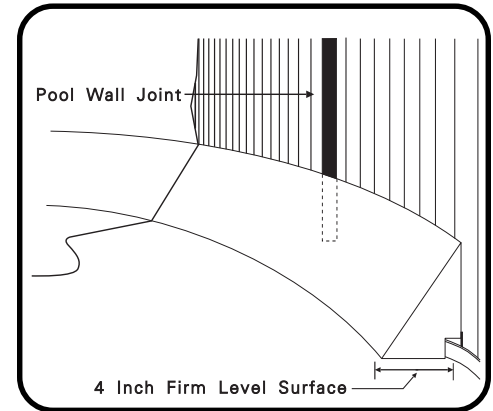
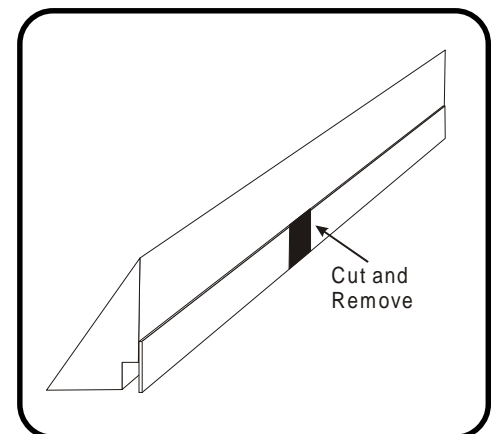

Figure 1
Figure 3
Step 2: Make sure you have a 4 inch wide firm, level surface around the entire inside of the pool wall. (See Figure 1)
Step 3: Locate the pool wall joint. Determine if the pool wall joint seam projects inside the pool and will interfere with the black plastic strip on the back of the cove. (See Figure 1) If there will be no interference, skip to Step 4. If there is interference, cut and remove a 3 inch section from the center of the black plastic backing strip. Using a fine tooth saw or tin snips, cut only the black plastic strip. Remove a 3 inch section of this strip by pulling the bottom of the strip away from the foam. (See Figure 3)
Step 6: Locate the first backbend along one side of the pool. The first piece of pool cove will be installed at this point. It will be necessary to cut and remove a six inch section from the center of the black plastic backing strip. Using a fine tooth saw or tin snips, cut only the plastic strip. Remove a 6 inch section of this strip by pulling the bottom of strip away from the foam. (See Figure 3)